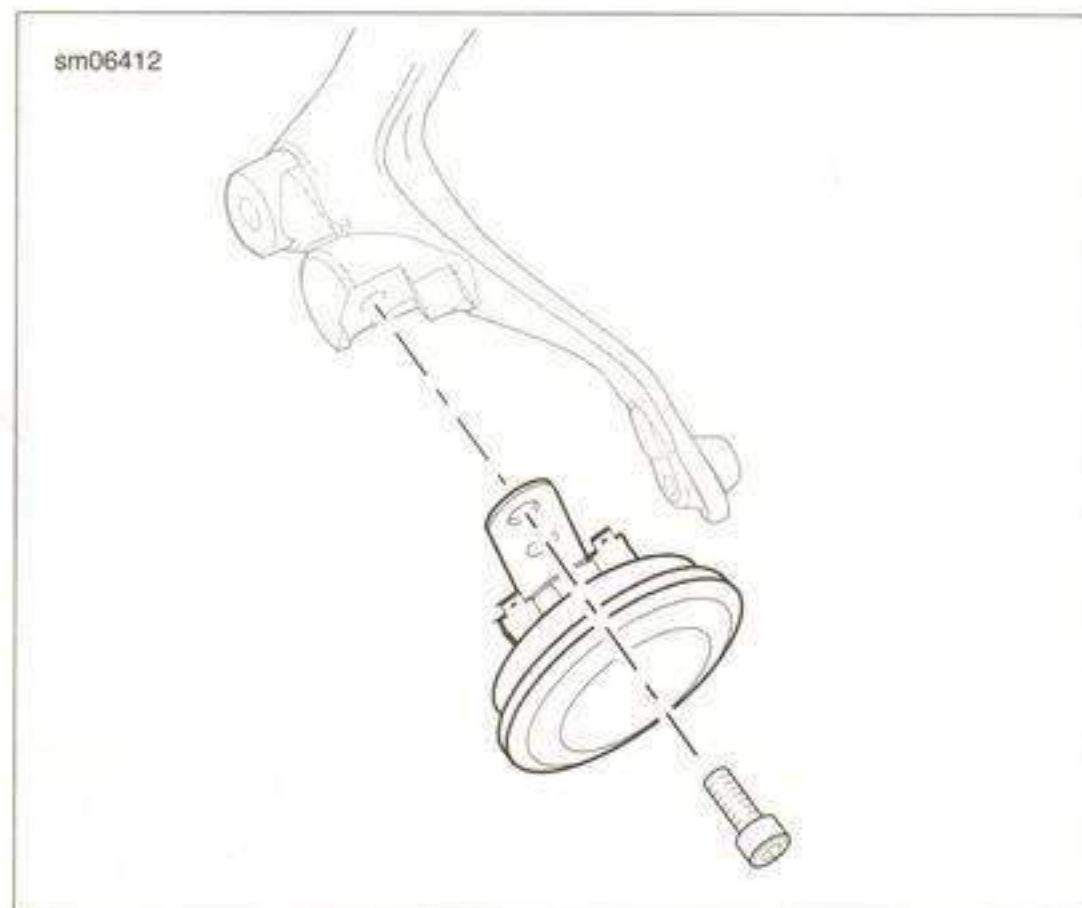

Figure 7-41. Horn Assembly
1. See Figure 7-41. Attach horn to K-bracket using fastener. Tighten to 8.1-10.8 Nm (72-96 in-lbs).